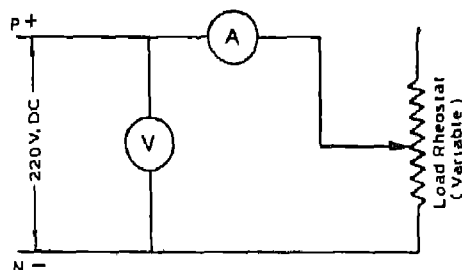

Fig 9.1 Constant Voltage with Load Resistance
- (i) Connect voltmeter, ammeter and load rheostat as shown in the Fig. 9.1; Check the connections. Keep the resistance at maximum value. This is VERY IMPORTANT.